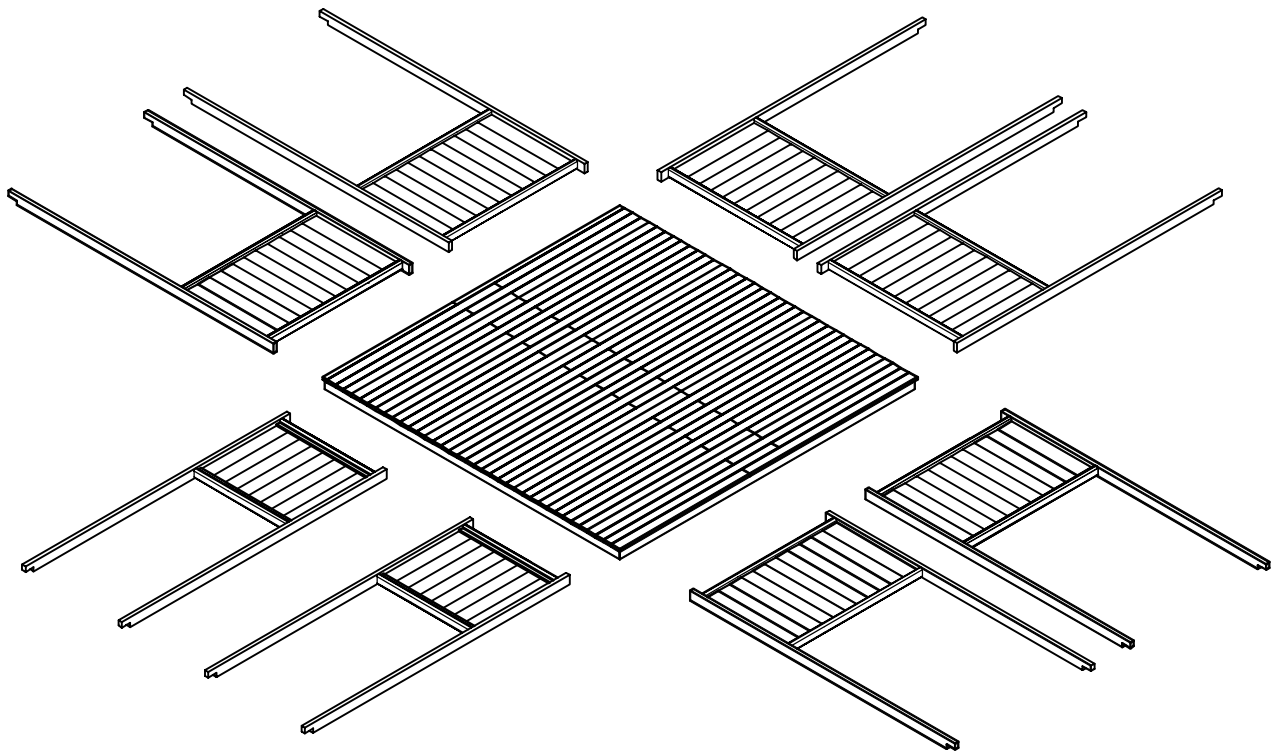

FIGURE S7
• Figure S7 illustrates the completed wall panels that are ready for erection. See the following pages on how to assemble the wall panels together.
- Once these are secured together. Place the posts in its final resting point on the deck. Refer to Figure S7 for clarification. For those that do not have the optional deck, draw a 10'x10' square on the gazebo's final location. The final placement of the corner posts will be on these spots.